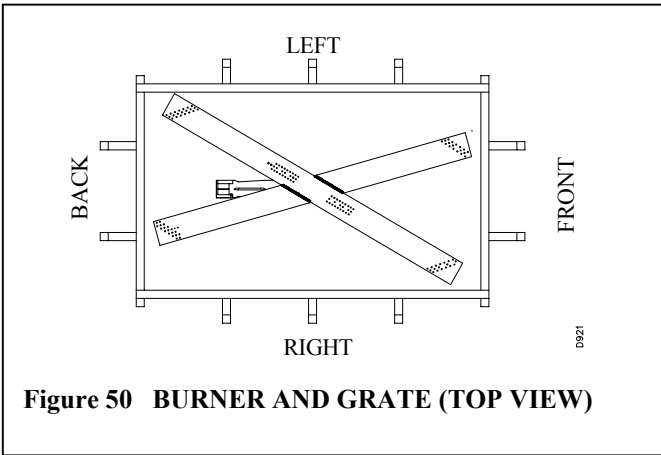

Figure 50 BURNER AND GRATE (TOP VIEW)
5. Figure 50, page 20, shows the top view of the burner and grate.